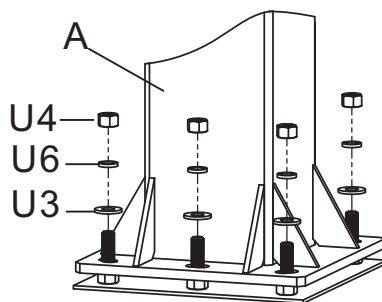
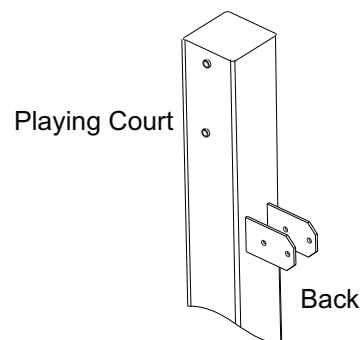

FIGURE 1B
FIGURE 1C
B. Remove the Padding from Main Post (A). Place the Main Post (A) over the J-Bolts. Slide a 18mm Thick Washer(U3), a Lock washer M18 (U6) and thread a 18mm Hex Nut (U4) to each J-bolt. Tighten the Nuts only a few turns onto the J-Bolts as shown in FIGURE 1B.
C. If the Main Post (A) is not exactly vertical, adjust the 18mm J-Bolt Hex Nuts(U4) located under the Post base. Tighten all of the Hex Nuts(U4) Above Post base when Main Post(A) is vertical.
NOTE: Face the Main Post(A) with Actuator Bracket facing away from playing court(as shown in FIGURE 1C).